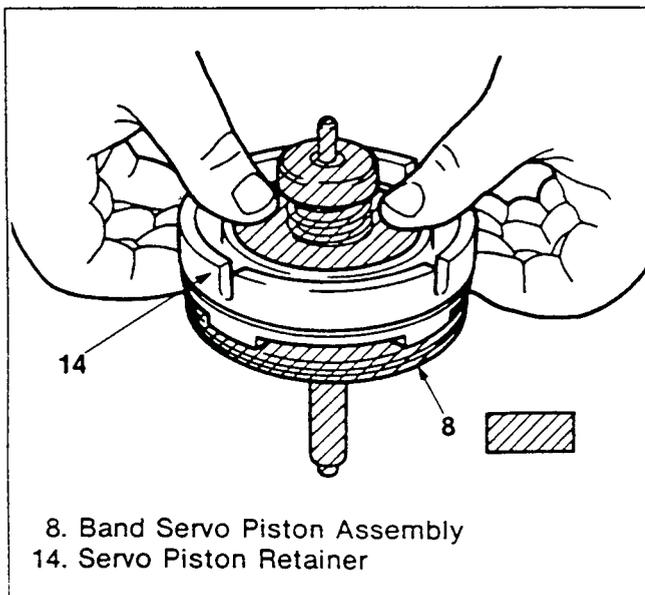

Figure 203. Band Servo Piston Removal
(Figures 203, 204, 205, 206, 207, 208 and 209)
- Using both hands, push the band servo piston assembly forward and remove it from the servo piston retainer (figure 203).